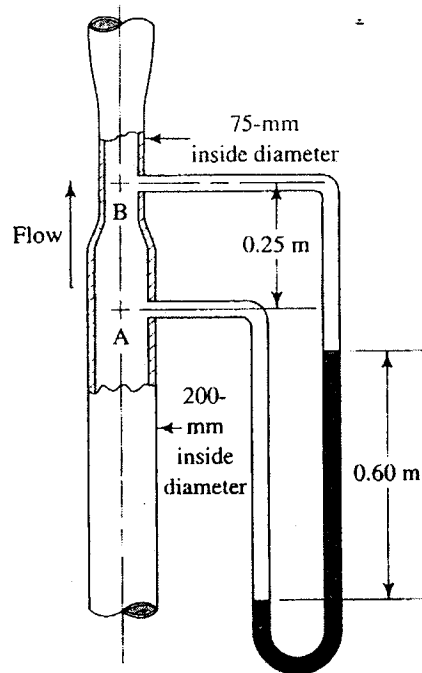

Figure 2 / Rajah 2
- [b] Venturi meter is a flow measuring device that can be used to measure the velocity of flow in a fluid flow system. The venturi meter shown in Figure 2 carries oil ($sg=0.90$). The specific gravity of the gage fluid in the manometer is 1.40. Calculate the volume flow rate of oil.